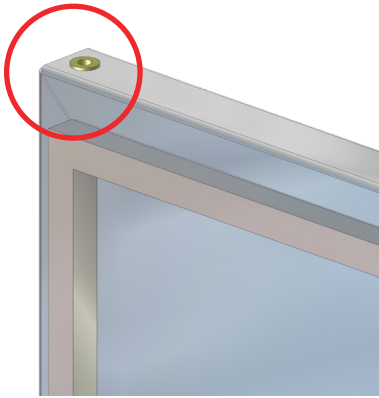

Fig. 66: Door Hinge Socket
8. Look at the socket located on both the top and bottom of the door (circled in red in Fig. 66). The pins of the door hinges will insert into these. Fit the bottom socket of the door onto the bottom hinge pin. Support the door on its bottom hinge while you prepare to affix the door to the top hinge.